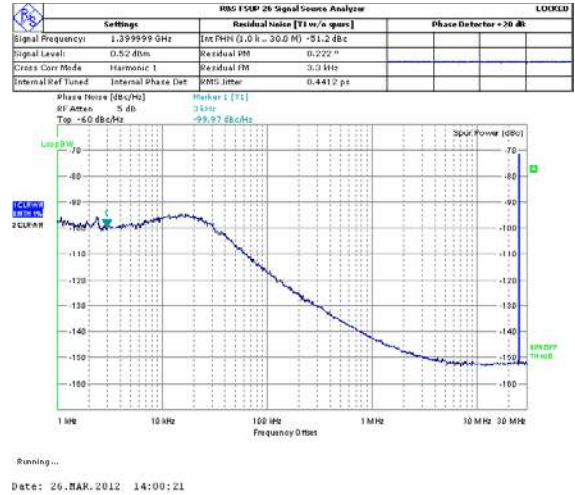
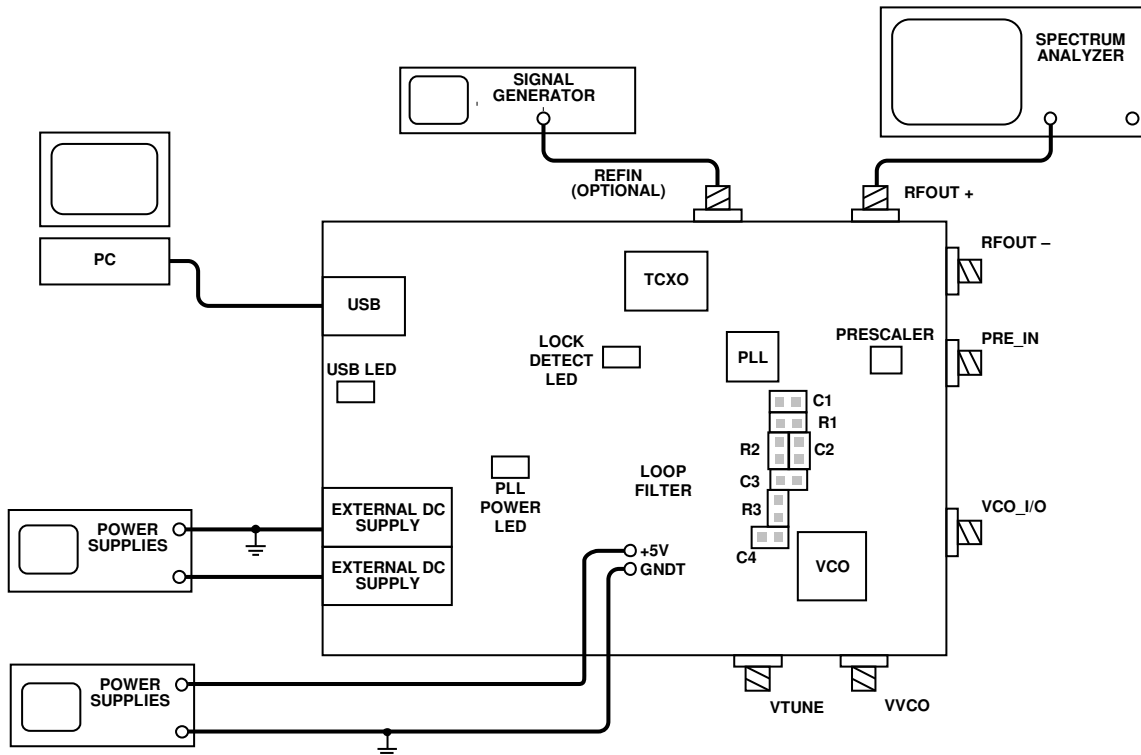

Figure 6. Signal Source Analyzer Display
Figure 7. Typical Evaluation Setup
- The test point labeled +5V must be supplied with 5 V, as shown in Figure 7. The 5 V powers high precision, low noise ADP150AUJZ-3.3 linear regulators to provide 3.3 V to V_{DD} on the board (which supplies the ADF4152HV AV_{DD} , DV_{DD} , and SDV_{DD} pins), to V_{OUT} (which supplies the ADF4152HV pull-up supply of the RF outputs), and to the ADL5541 buffer, which improves phase frequency detector (PFD) spur levels at the VCO output.
7. In the software window, set the RF frequency (Figure 6 shows a screenshot of the signal source analyzer operating in phase noise mode, taken at a frequency of 1.4 GHz). Set the PFD frequency as defined in ADIsimPLL, and program the reference frequency to 25 MHz if the on-board TCXO is used or to the frequency that has been supplied to the REFIN connector. See Figure 7 for the suggested setup.
8. Measure the output spectrum. Figure 6 shows a 1.4 GHz output.